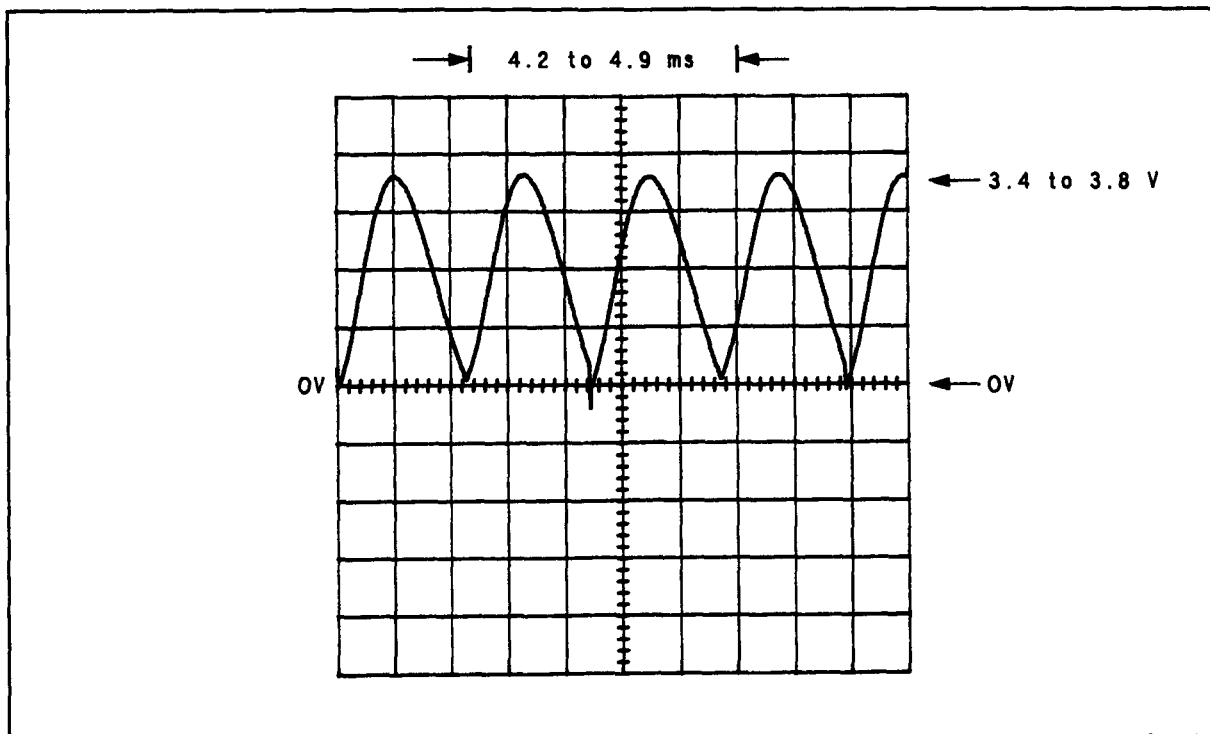

Figure 8F-6. Waveform for √3 Step 3
- DC couple the oscilloscope and connect it to A53TP2 (Φ DET). The waveform should appear as shown in Figure 8F-6.